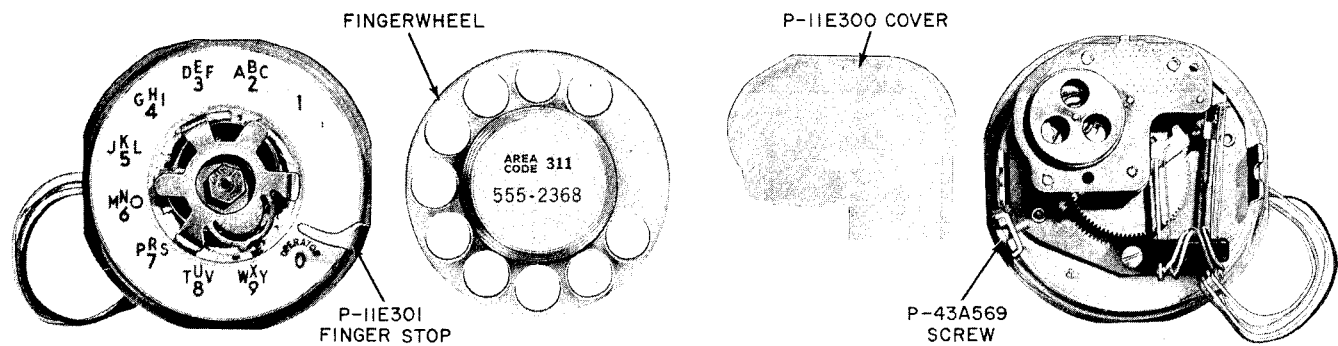

Fig. 8 — 8-Type Dial
2.05 See Tables G and H and Fig. 8 for use and assembly of parts and Table I for number plates.